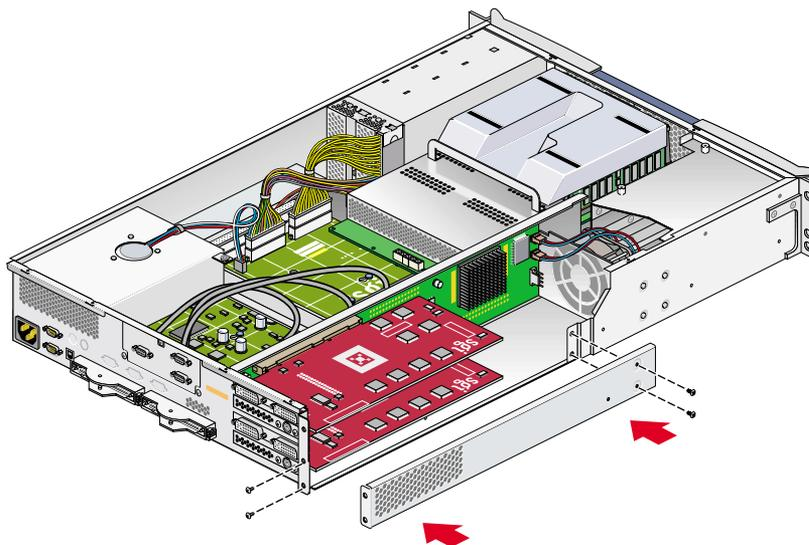

Figure A-19 Replacing the PCI/PCI-X Support Bracket
4. Replace the lower PCI/PCI-X support bracket and screw in the four Phillips screws, as shown in Figure A-19.